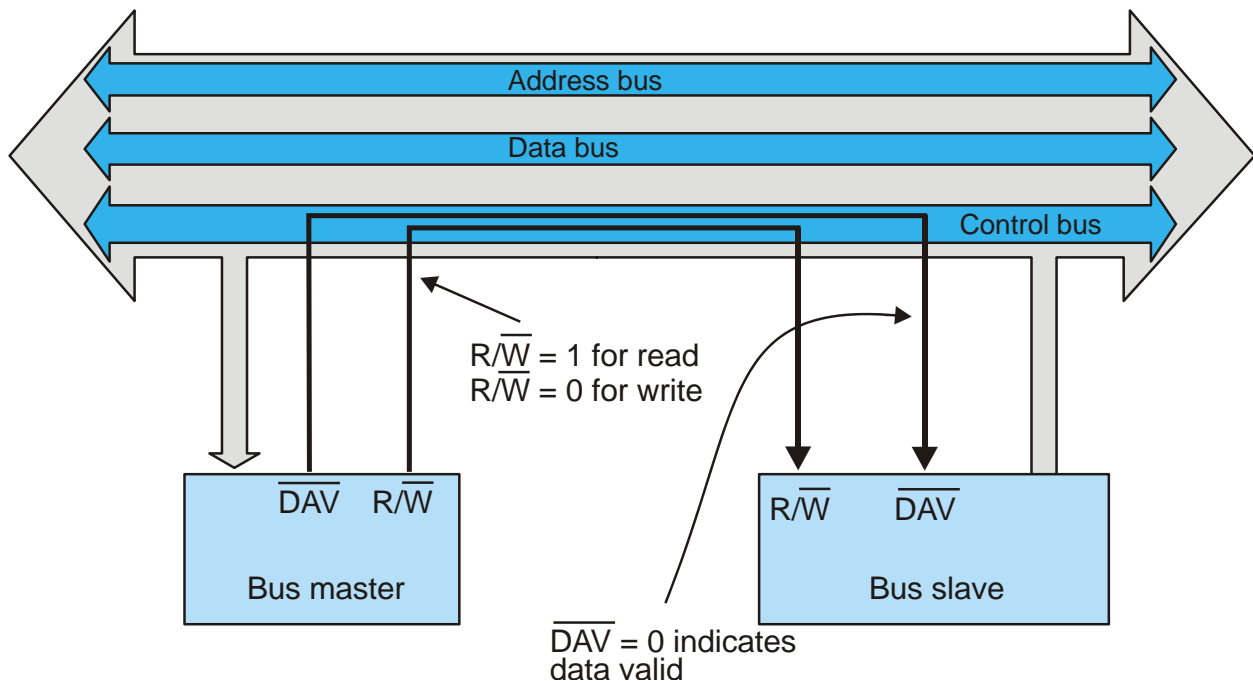

Figure 4: Minimal bus control signals
- **Figure 4** describes the simplest *synchronous* control bus that requires two signals: a **data-direction** signal and a **data-validation signal**. (DAV)